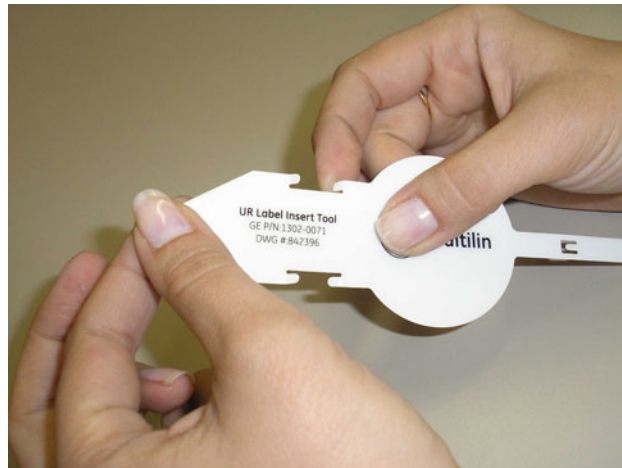

Figure 4-11: **LABEL TOOL** - BENDING THE LOWER TABS DOWNWARD
- Bend the two tabs towards centre of the tool downwards (away from you when looking from the printed side) - see figure 4-11 below.